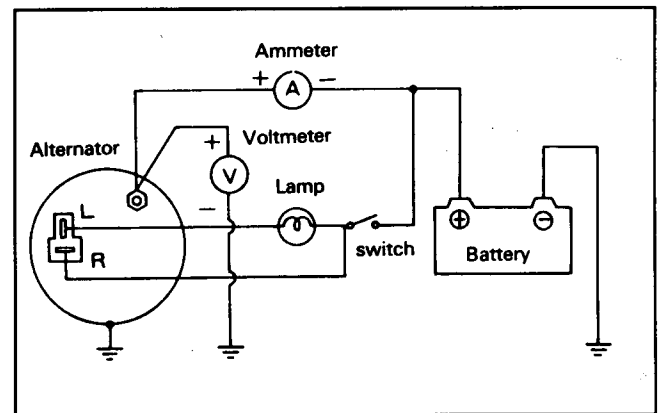

Figure 24
2. Install an ammeter between the positive (+) terminal of the battery and terminal "B" of the alternator (Fig. 24).